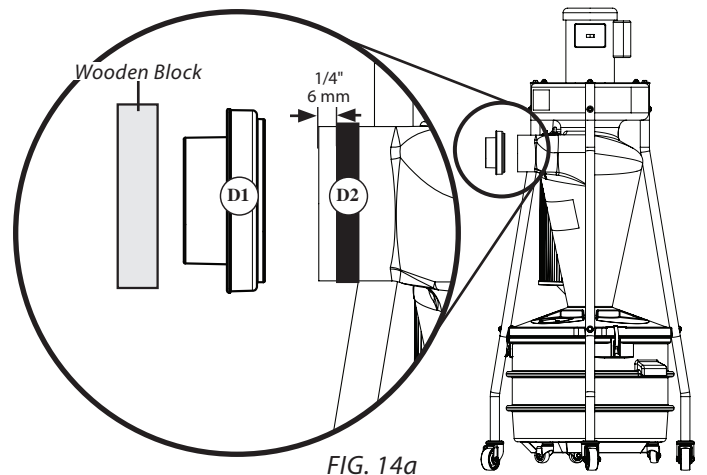

FIG. 14a
- 14** If you plan to hook four inch flex hose to the inlet, slide the 1/2" Silicone Band (D2) around the cyclone's 5" inlet so that it is 1/4" from the edge. Push the 4" Reducer Adapter (D1) firmly onto the inlet and over Silicone Band. Use a wooden block and mallet to gently seat the adapter into place (using the wooden block to evenly distribute the force and avoid deforming the molded adapter) [FIG. 14a].